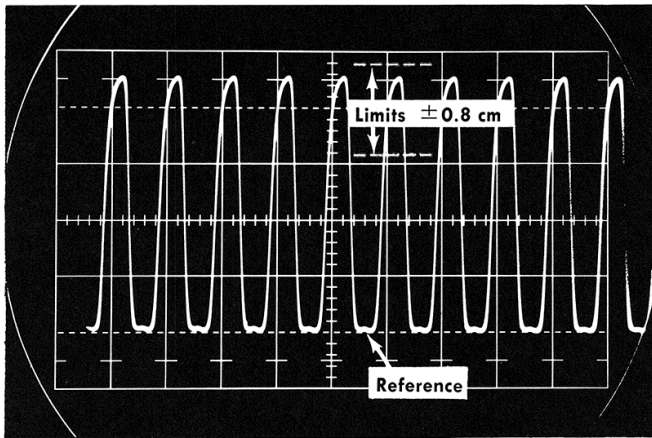

Fig. 5-5. Display of Trigger Output signal.
- d. Set the Volts/cm switch to .05 and the Mode switch to CH 1. Set the Time/cm switch to .1 μs and the Triggering controls for a stable display, see Fig. 5-5.